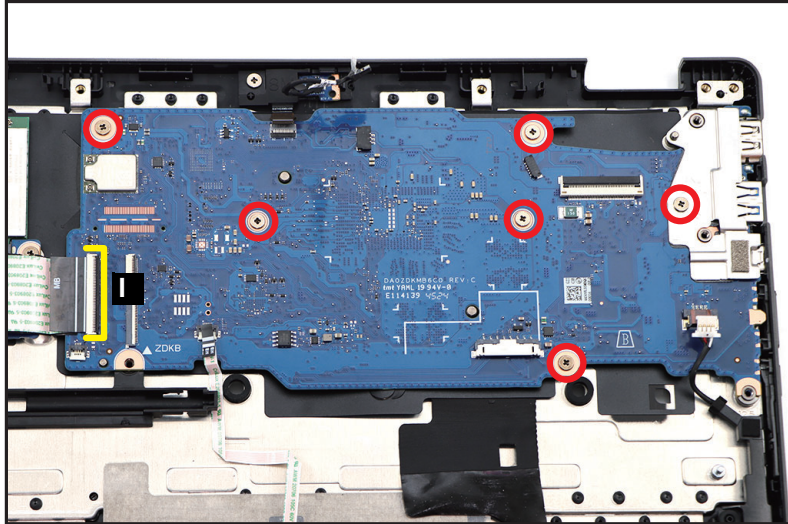

Figure 1-26. Mainboard Removal
8. Remove six (6) screws securing the mainboard and I/O bracket (Figure 1-26).
9. Disconnect the 45-pin I/O board (H) FFC from the mainboard connector (I) (Figure 1-26).